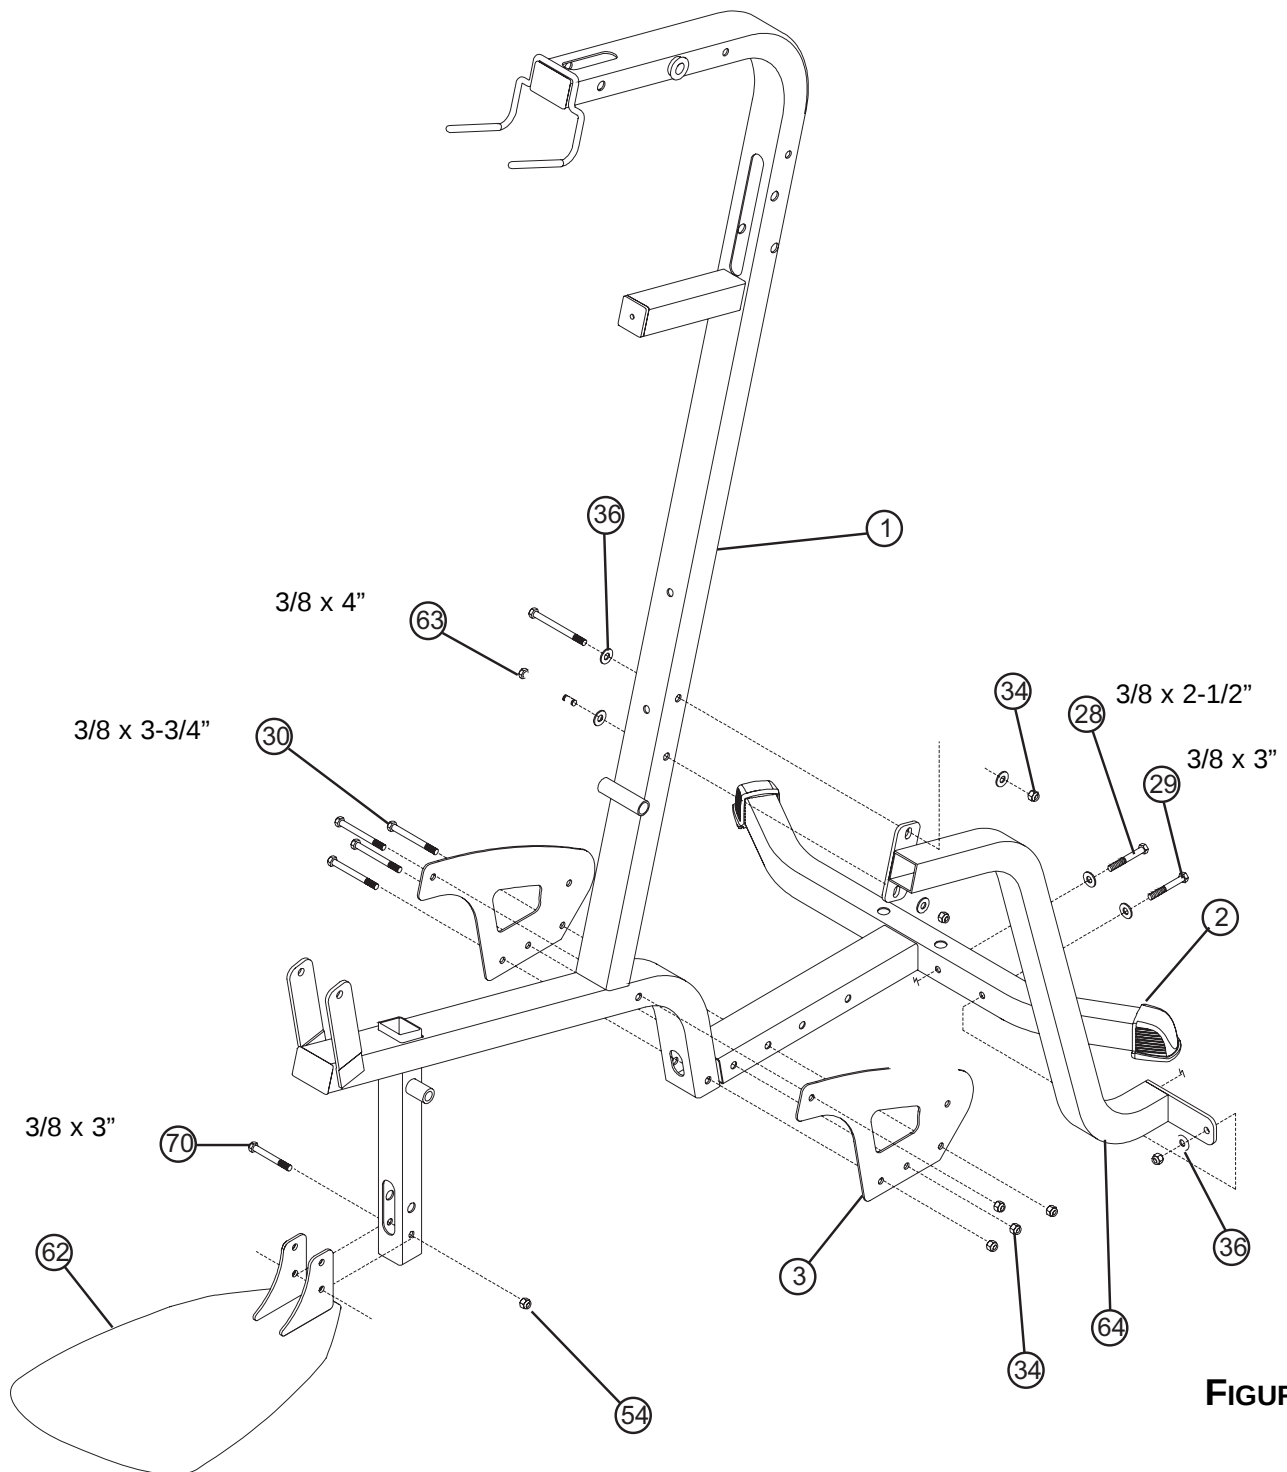

FIGURE 1
- **LOOSELY** assemble two BASE PLATES (3) to the FRAME (1) and BASE (2) using four 3/8 X 3-3/4" BOLTS (30) and four 3/8" LOCK NUTS (34). See FIGURE 1.
- **LOOSELY** assemble the FOOTPLATE (62) to the lower holes in the FRAME (1) using one 3/8 x 3" BLACK BOLT (70) and one 3/8" BLACK LOCK NUT (54).
- **LOOSELY** assemble the **TOP** of the FRAME BRACE (64) to the FRAME (1) using two 3/8 x 4" BOLTS (63), two 3/8" WASHERS (36) and two 3/8" LOCK NUTS (34). Assemble the **BOTTOM** of the FRAME BRACE (64) to the BASE (2) using one 3/8 x 3" BLACK BOLT (29), one 3/8 x 2-1/2" BOLT (28), three 3/8" WASHERS (36) and one 3/8" LOCK NUT (34).